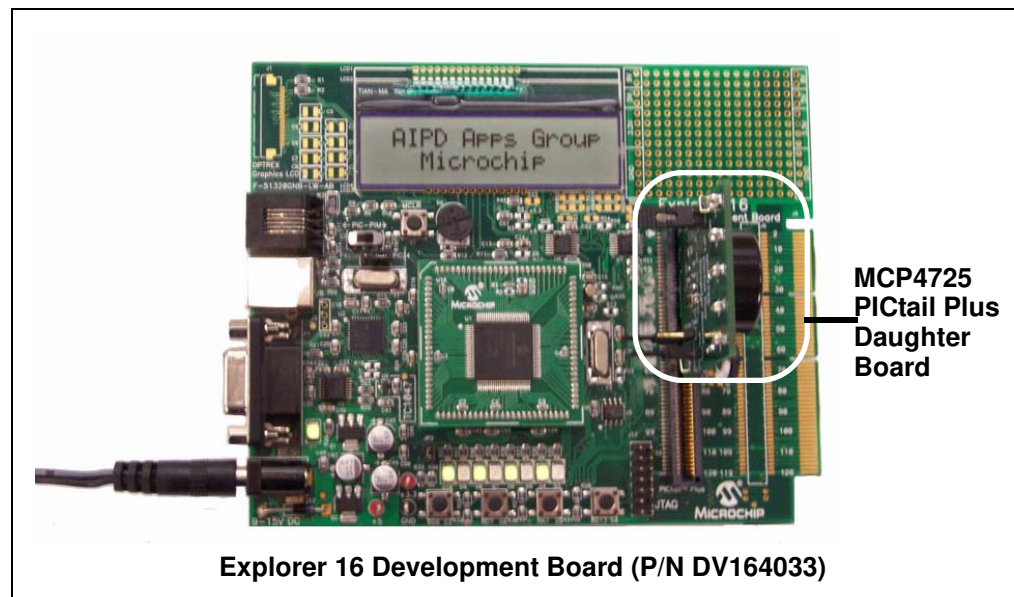

FIGURE 1-2: Connecting the MCP4725 PICtail™ Plus Daughter Board to the Explorer 16 Development Board.
Figure 1-2 shows the MCP4725 PICtail™ Plus Daughter Board with the Explorer 16 Development Board. When they are connected, the user can program the 16-bit PIC24FJ128 MCU on the Explorer 16 Starter Kit. The Explorer 16 Development Board sends I²C serial communication commands to the MCP4725 PICtail™ Plus Daughter Board for the MCP4725 DAC output. The Explorer 16 MCU firmware for this MCP4725 PICtail™ Plus Daughter Board writes to the DAC input register continuously in 1 LSB increments. The user can see the DAC output (V_{OUT}) changes using an oscilloscope. Also, a buzzer on the MCP4725 PICtail™ Plus Daughter Board makes sounds driven by the DAC output (V_{OUT}).
1. Connect the MCP4725 PICtail™ Plus Daughter Board to the J5 socket on the Explorer 16 Development Board as shown in Figure 1-2.